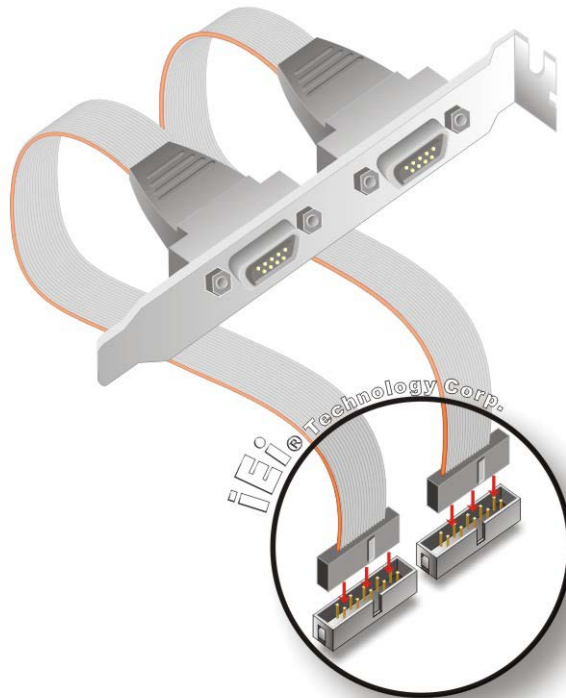

Figure 4-16: Dual RS-232 Cable Installation
Step 2: Insert the cable connectors. Insert one connector into each serial port box headers. See Figure 4-16. A key on the front of the cable connectors ensures the connector can only be installed in one direction.